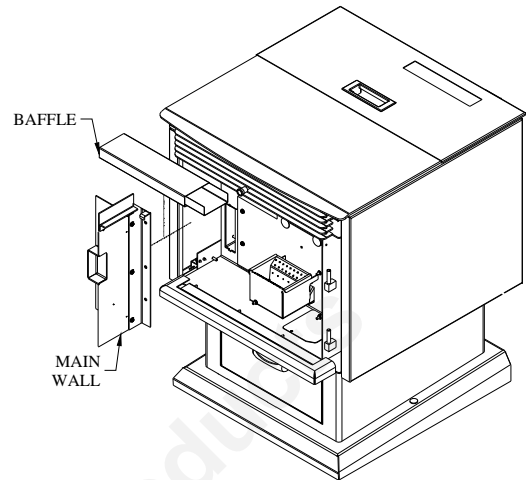

Figure 42
- c. With the door closed, clean heat exchanger tubes by sliding the cleaning rod back and forth. (see Cleaning section and Figure 42 & 43).